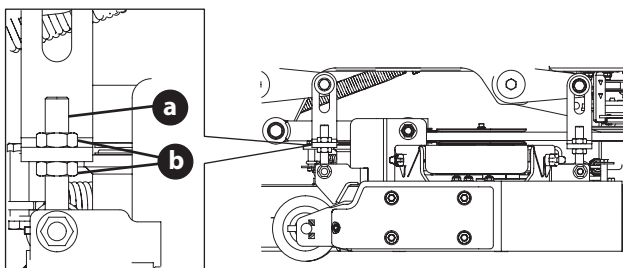

Fig. 31
3. Adjust the eyebolt (a) at the left front of the deck so that the blade-to-ground height at the right outside blade tip matches that of the left outside blade tip. This is done by loosening the jam nuts (b) on the eyebolt (a) and tightening the upper jam nut (b) to raise the deck and loosening the jam nut (b) to lower the deck. The right outer blade tip height is fixed by the right, front eyebolt (a) so you must adjust the left outer tip to match it (Fig. 31).
4. Once the proper adjustment is made, re-tighten the jam nuts (b) (Fig. 31).
3. Loosen the jam nuts (b) at the rear left and right of the deck eyebolts (a) (Fig. 31).
4. Start at the right rear to raise the rear of the deck, tighten the upper jam nut (b) to raise the deck or loosen the upper jam nut (b) to lower the deck (Fig. 31).
5. Adjust the jam nut (b) at the left rear to take the "slack" out of the threaded rod (Fig. 31).
6. Tighten both lower jam nuts (b) to secure the deck adjustment (Fig. 31).
7. The final adjustment would be to take the "slack" out of the left rear linkage if the rear of the deck was raised by adjusting the jam nuts (b) on the eyebolt (a). Loosen the jam nuts (b) and tighten the upper jam nut (b) to remove "slack" (Fig. 31).
8. In many cases it will be necessary to adjust deck height using both eyebolt (a) adjustments and pitch adjustment to achieve the correct blade-to-ground heights (Fig. 31). If you remember that the front right blade tip adjustment is fixed and you level to that height, adjusting the decks will be simplified.